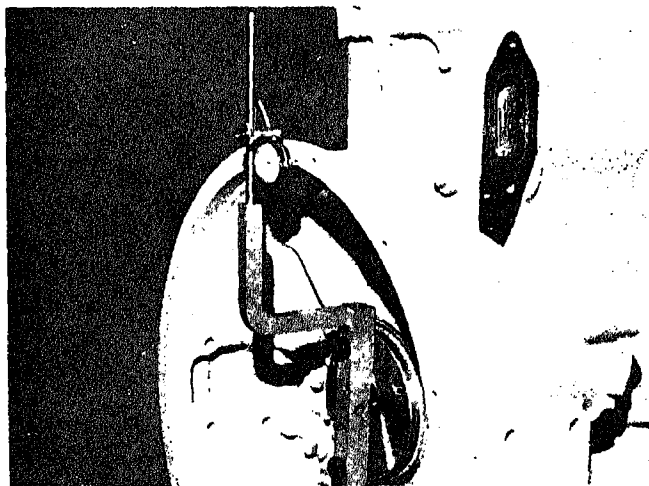

Fig. 14-1-58. Indicating flywheel housing face
2. Draw chalk marks at A, A¹, B and B¹, Fig. 14-1-58.
1. Attach indicator gauge as shown in Fig. 14-1-58.